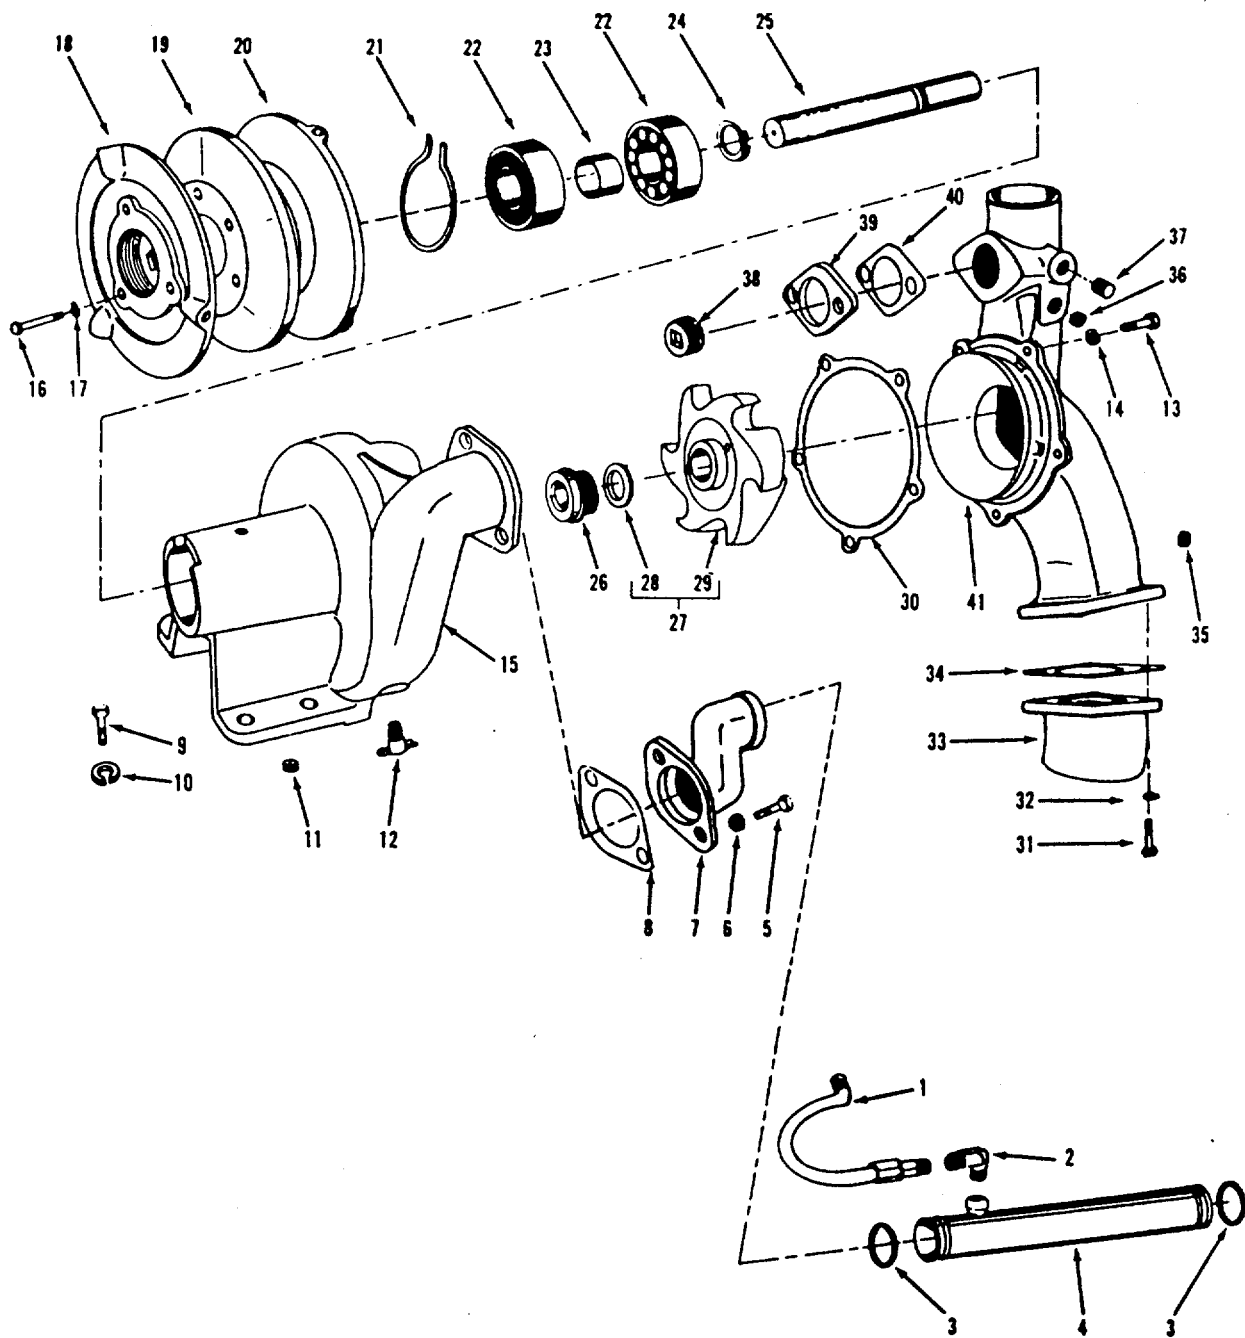

Figure 13-29. Water Pump, Exploded View
(1) Disassembly. Prior to disassembly, remove the water pump from the engine assembly in accordance with the Operator/Crew and Organizational Maintenance manual. Refer to figure 13-29.
LEGEND FOR FIGURE 13-29